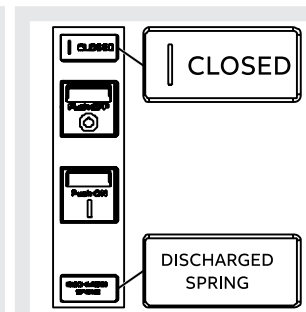

Figure 67
3. Circuit-breaker closed with springs discharged (see Figure 67).